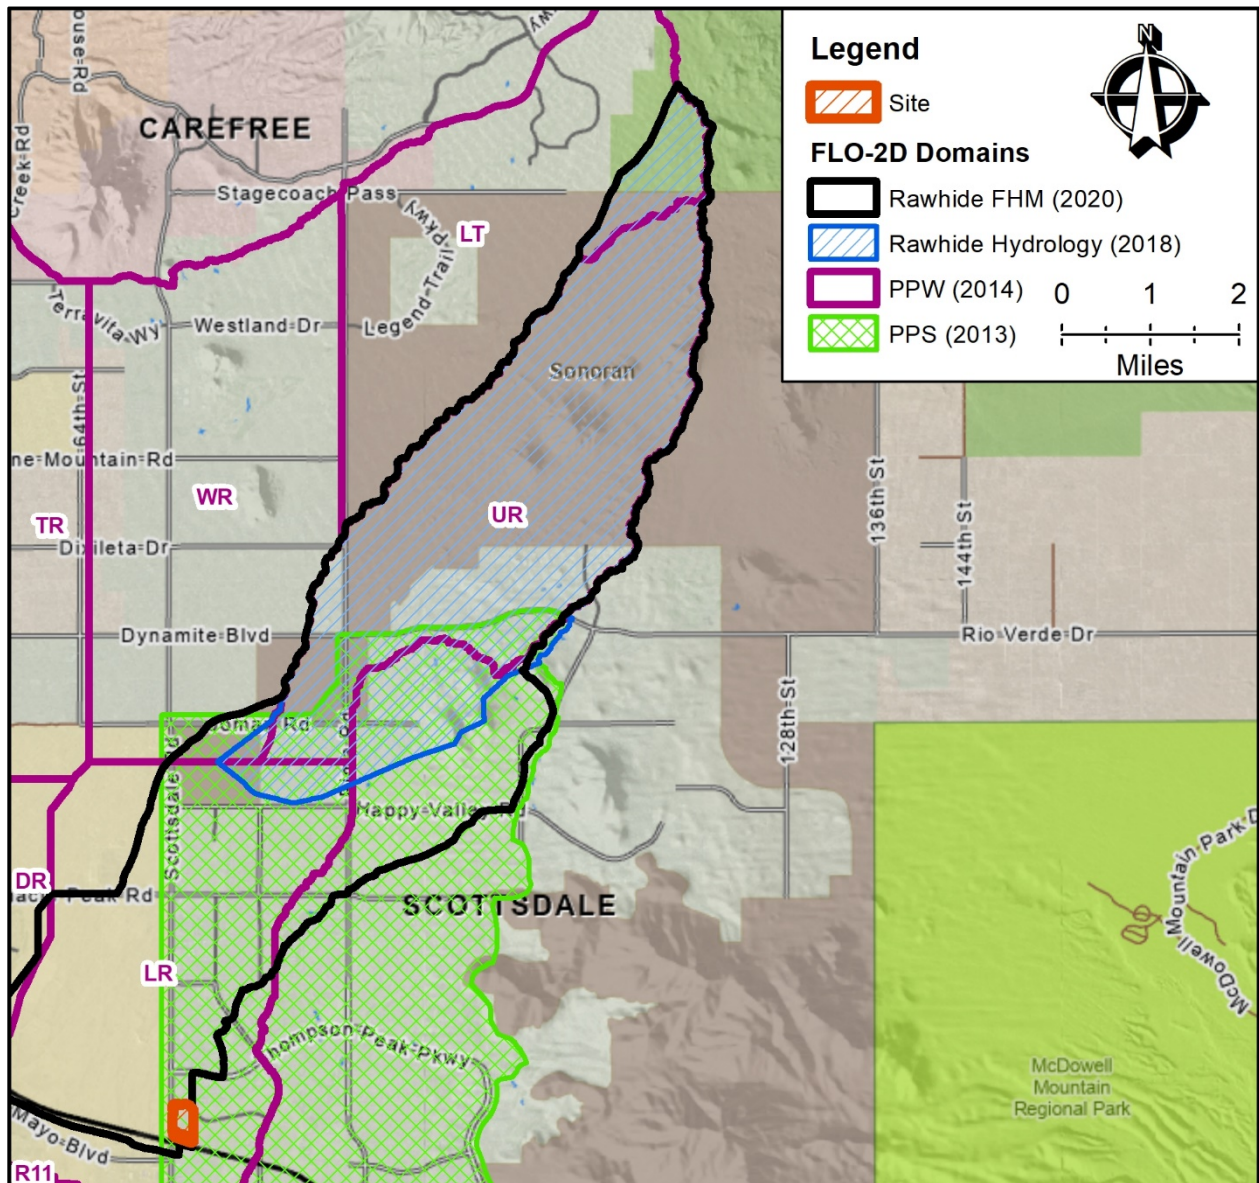
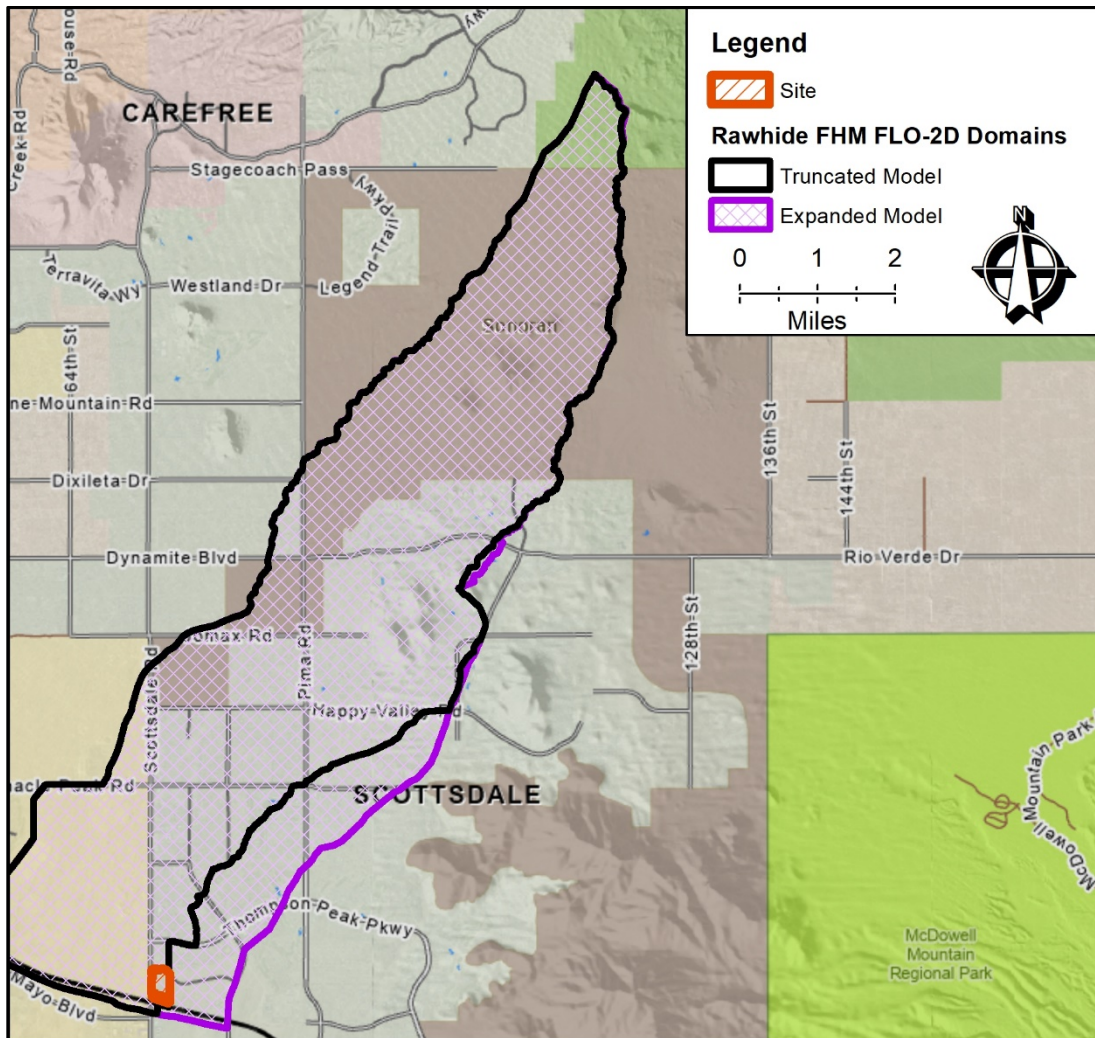

Figure 2. FLO-2D Modeling Domains in Relation to the One Scottsdale Project Site
Figure 6. Rawhide FHM FLO-2D Domains shown with One Scottsdale Site
The FLO-2D modeling domains in relation to the project site are shown in **Figure 2**.
- 2) As shown in **Figure 2**, the modeling domain for the Rawhide Wash FHM CLOMR does not cover the entire upstream watershed that drains to One Scottsdale. This is because the FLO-2D domain was truncated to focus on areas affected by Rawhide Wash for the submittal to FEMA. For the current study, an earlier version of the modeling that covered the entire upstream watershed is used. However, the expanded modeling used the same parameters and procedures as the truncated model. The relationship between the two domains is shown in **Figure 6**.